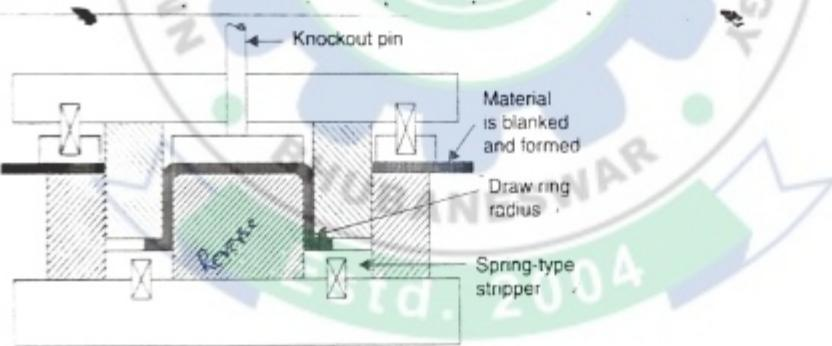

Fig. 3.48. Compound blank and draw die.
- Fig. 3.48 shows a compound blank and draw die. The metal enters as a flat sheet, is cut to the right length, and is then formed over a reverse-type punch. Spring action on a pressure plate strips the part off the punch. The knockout pin, shown at the top, pushes the part out of the upper die if it stays on that side when the die opens.